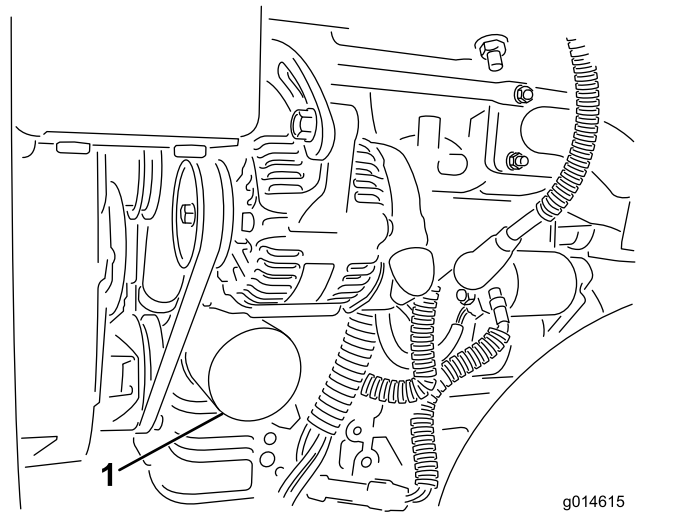

Figure 37
2. Remove the oil filter (Figure 37). Apply a light coat of clean oil to the new filter gasket.